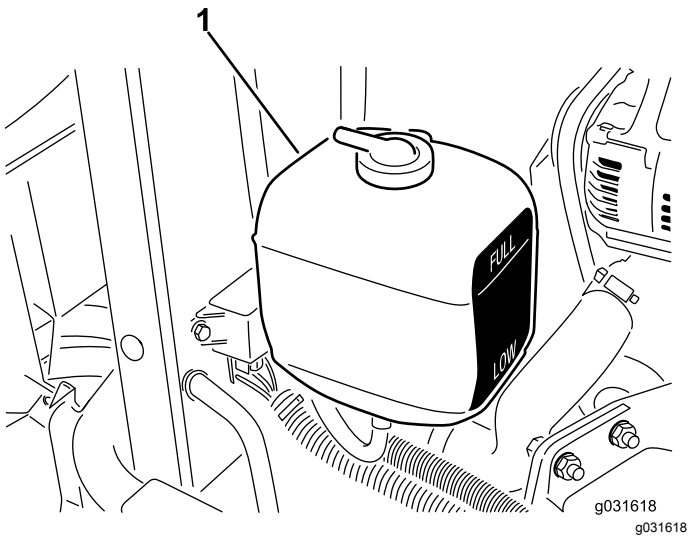

Figure 52
1. Check the coolant level in the expansion tank (Figure 52).